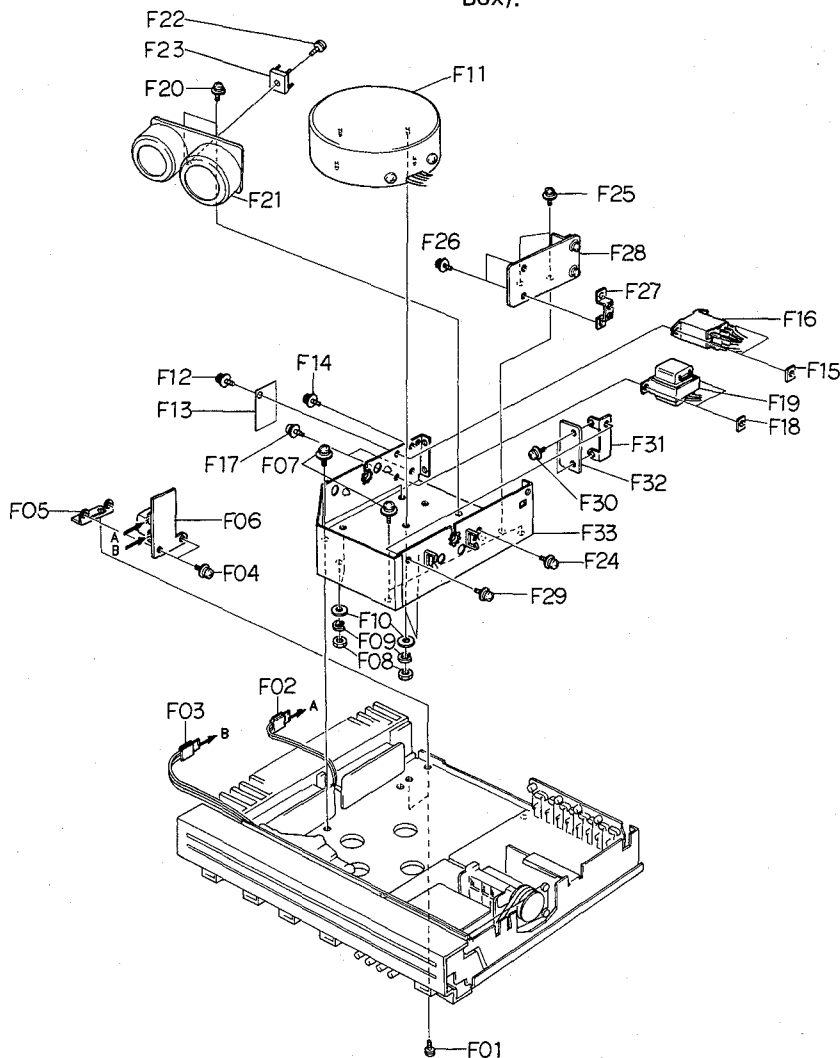

Fig. 3.12
Refer to Fig. 3.12. Remove Side Panel R and Covers referring to items 3.1 and 3.2.